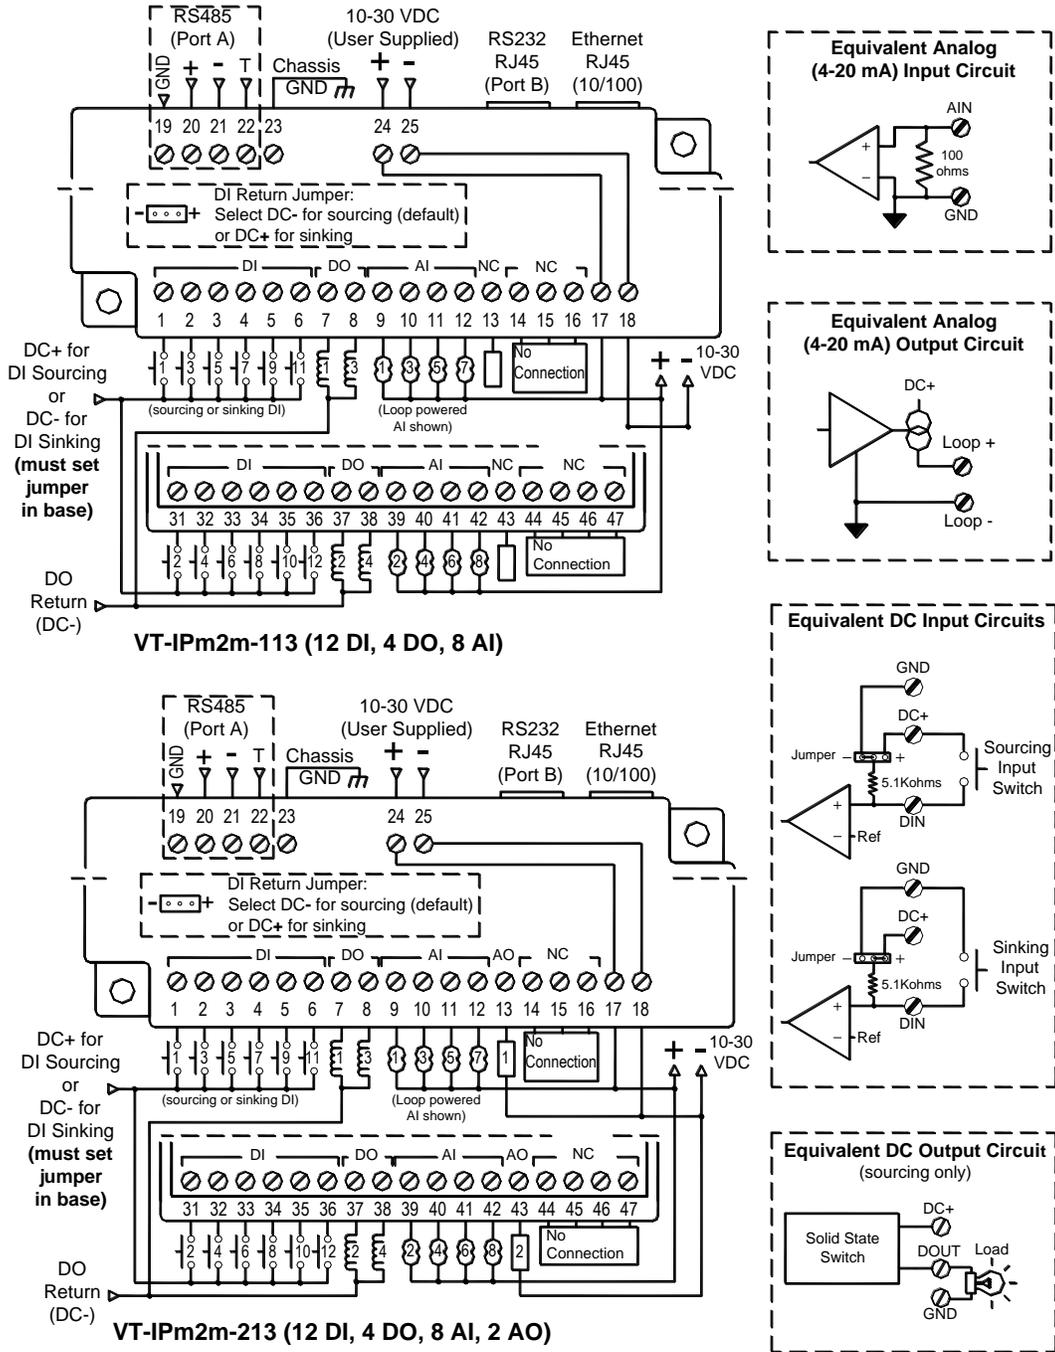

Figure 3-3 VersaTRAK IPm2m diagram for power, communication and on-board I/O wiring
3. **Connect Power and I/O Wiring to On-board I/O and I/O Modules:** Connect AC power to the Red Lion or user supplied power supply. Make DC power connections from the power supply to the Red Lion components. Make field wiring connections to the Red Lion I/O modules and any peripheral equipment. Refer to the VT-IPM2M power / wiring diagram (Figure 3-3) for making the appropriate power and on-board I/O connections.
**DC Power Wiring:** All Red Lion units and user instrumentation loops may be powered from a single DC source. Refer to Figure 3-3 DC power connections to the VT-IPM2M. The user DC power source must be in the range of **10 to 30 volts**.
The VT-IPM2M comes with integrated discrete and analog I/O on board. Wiring for the available on-board I/O should be made based on the wiring diagram shown in Figure 3-3. A hardware summary for each of the available I/O is described below. Further details on the features available when using the on-board I/O can be found in the electronic help system in the Sixnet I/O Tool Kit.
Positive DC voltage must be applied to an input to indicate an ON condition. All channels are referenced to a common return or supply, which is connected to the negative side (ground) or positive side (DC+) of the DC power source. One wire from each sourcing field input should be bussed together and connected to terminal 17 (DC +). One wire from each sinking field input should be bussed together and connected to terminal 18 (DC GND). Refer to the wiring diagram, Figure 3-3. Set the DI return jumper inside the wiring base to match the wiring configuration of the inputs (sinking or sourcing).